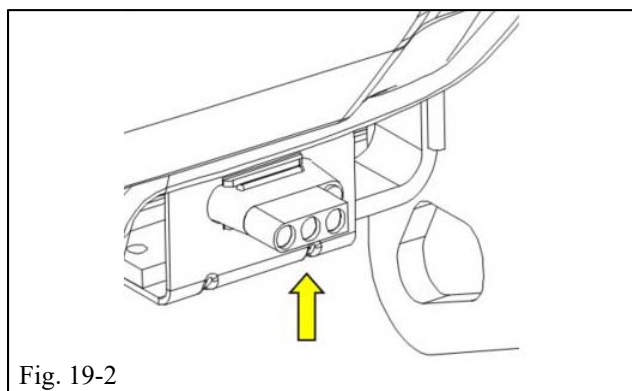

Fig. 19-2
- (e) The trailer wire harness 4-pin connector bracket and the 4-flat connector installation is described in the Tow Hitch Wire Harness Installation Instructions (Fig. 19-2).